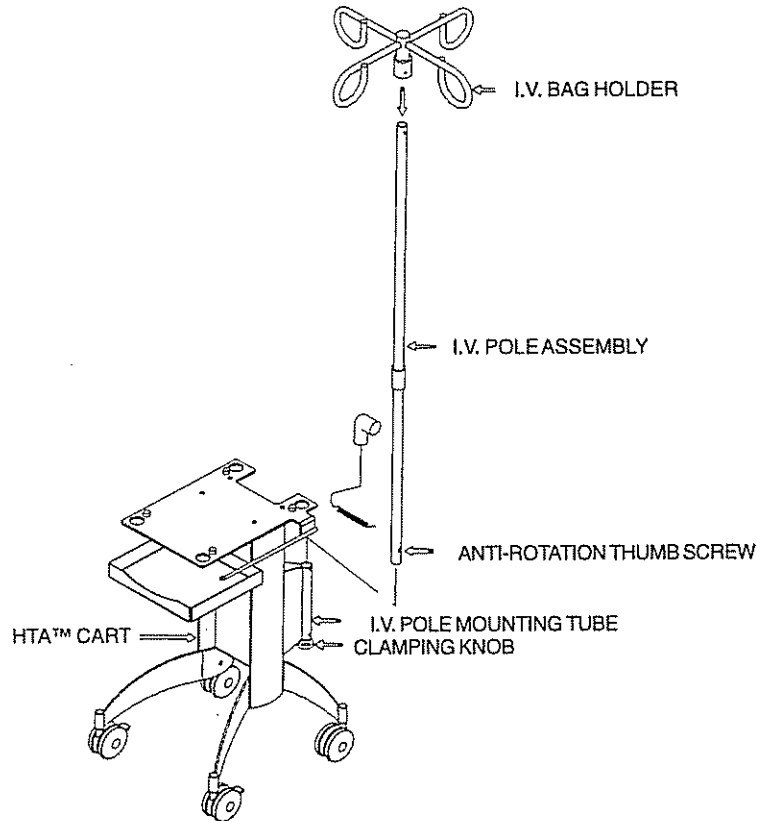

Figure 7
Step 5: Open carton containing I.V. pole and remove items. Refer to Figure 7 for steps 6-9.